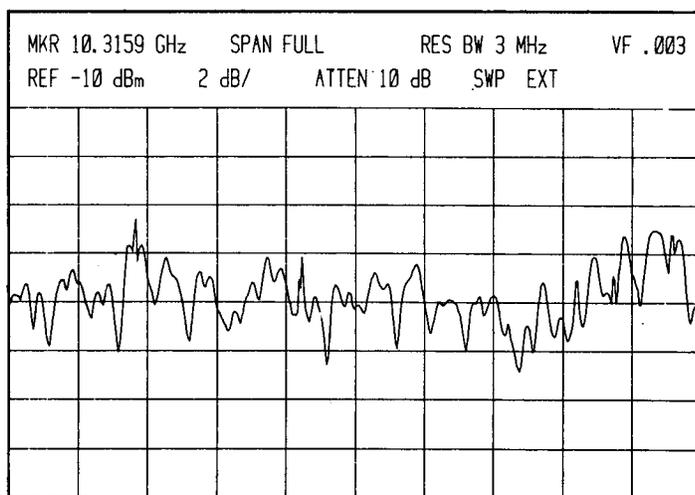

Figure 5-56. CRT Plot of Typical Frequency Response, 10.5 to 22 GHz
27. Adjust A20R105 V6 for minimum amplitude variations on CRT trace. Repeat step 26 (see Figure 5-56).